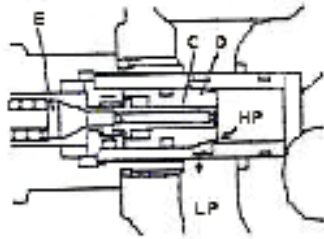

Figure 2-21
(2) Motion of Safety Overflow Valve (Figure 2-21)
There is tilting self-locked valve in tilt cylinder valve plate to prevent mast from fall down suddenly when cylinder cavity generate negative pressure and danger when misoperation of inclined valve stick. Because this self-locked valve, if even thrusting joy stick, mast cannot be tilted when forklift motor stop working. Direction of flow liquid is same as figure 2-21, here, mast is tilting backward. When valve disc is pushed in.